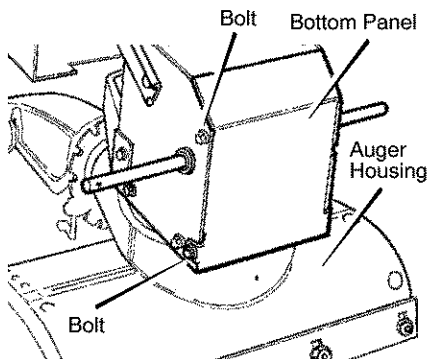

Figure 31
3. Loosen the **bolts** on each side of the **bottom panel** (see Figure 31).